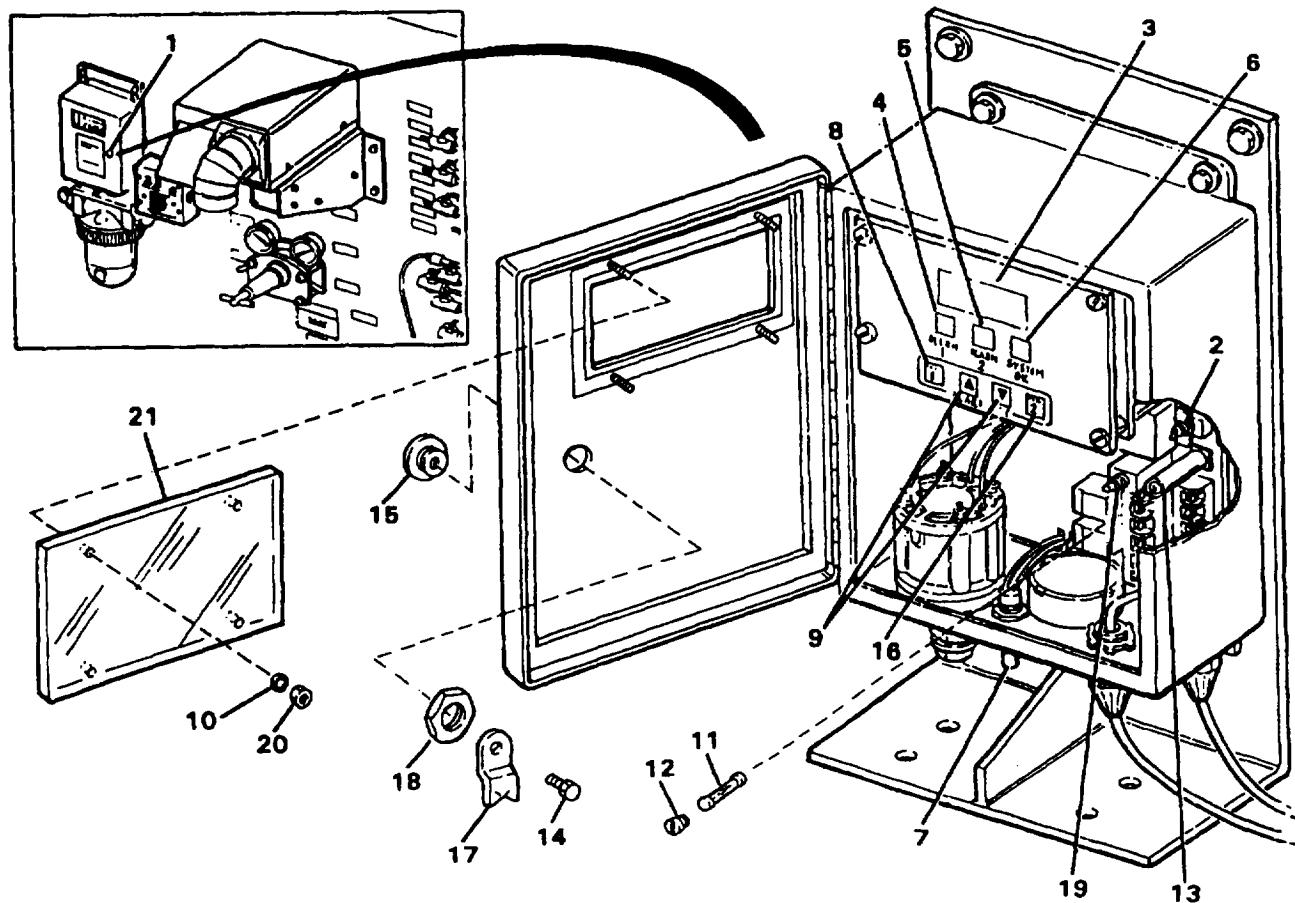

Figure 4-73. Carbon Monoxide Monitor
- a. Turn the screw (1, Figure 4-73) 1/4 turn clockwise and open the door.